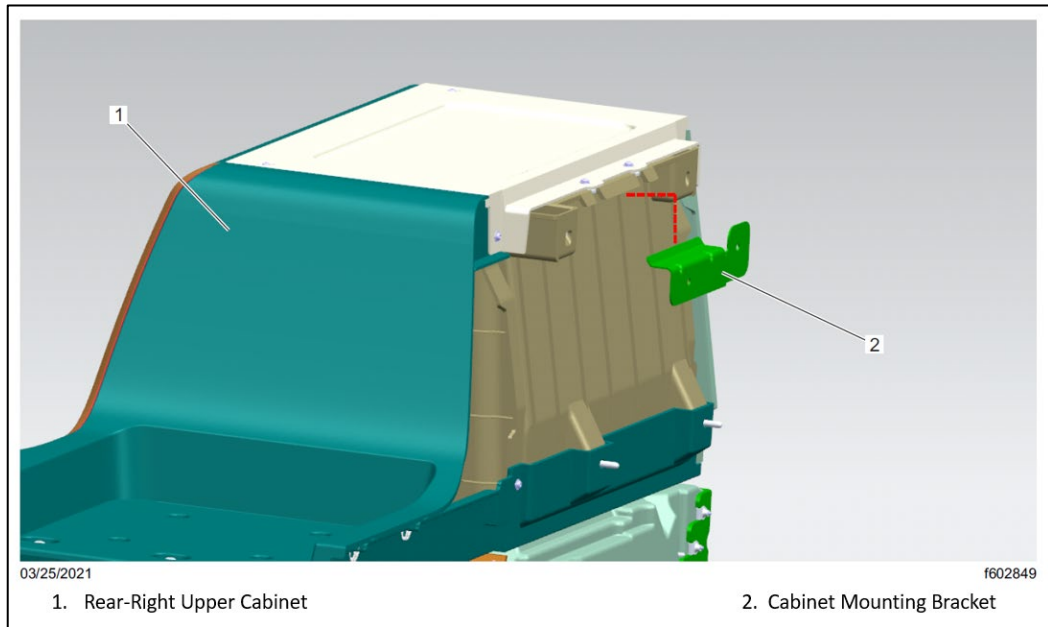

Fig. 44, Mounting Rear-Right Upper Cabinet
15.1. Hang the rear-right upper cabinet on the cabinet mounting bracket. See Fig. 44.